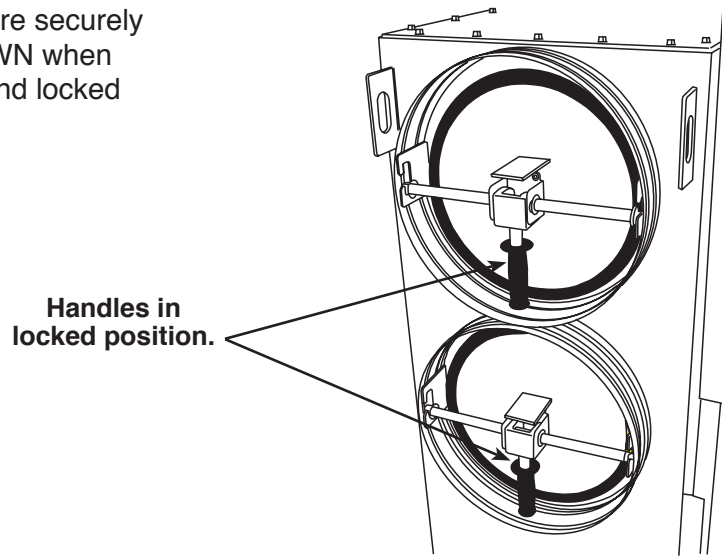

Figure 8
9. Verify the cartridge filter covers are securely clamped. The handles point **DOWN** when the covers are correctly closed and locked into place. See Figure 8.